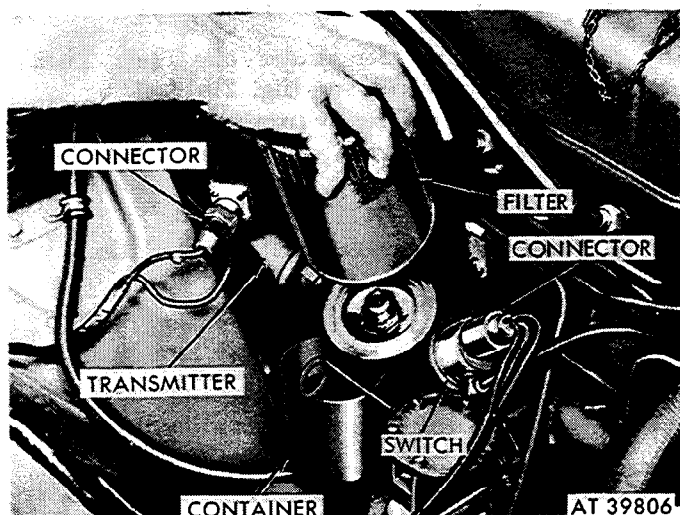
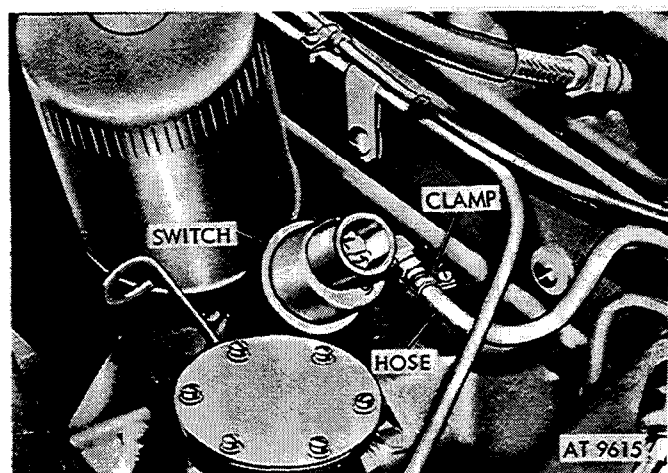
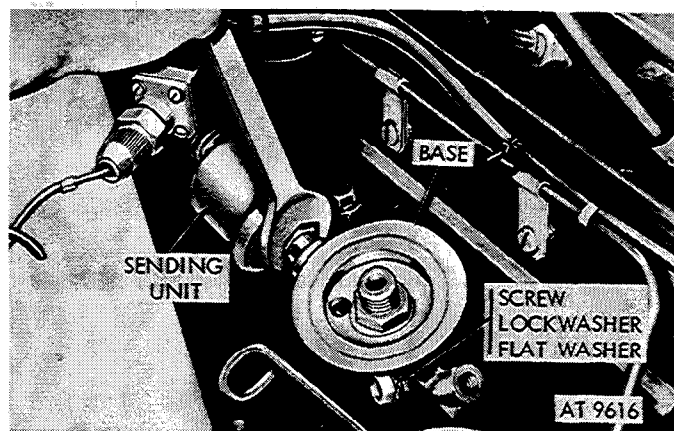

Figure 2-67. Remove oil filter and disconnect connector.
Figure 2-68. Remove fuel pump safety switch (M151, M151A1, M151A1C and M718).
Figure 2-69. Remove sending unit and mounting base.
(1) Place container under oil filter. Turn counterclockwise to remove (fig. 2-67).
(2) Install new filter by turning clockwise and tighten securely. Operate engine and check for leaks.
a. *Removal.* Refer to figure 2-68 and instruction below to remove oil filter mounting base.
(1) Remove oil filter (para. 2-34).
(2) Grasp electrical connector at fuel pump safety switch (oil pressure safety switch) and pull, separating male and female connectors (fig. 2-67).
(3) Loosen clamp screw and pull vent hose off fuel pump safety switch (oil pressure safety switch) (fig. 2-68).
(4) Unscrew fuel pump safety switch (oil pressure safety switch) (fig. 2-68).
(5) Pull oil pressure sending unit electrical connector, separating male and female connectors.
(6) Unscrew oil pressure sending unit from oil filter mounting base (fig. 2-69).
(7) Remove two screw and lockwasher assemblies and flat washers (see fig. 2-69).
(8) Remove oil filter mounting base (fig. 2-69). Remove and discard gasket. Clean mounting base thoroughly. Blow out all oil passages with compressed air.
(1) Unscrew and remove oil filter (para. 2-34).
(2) Disconnect oil pressure sending unit connector.
(3) Unscrew and remove oil pressure sending unit from oil filter base (fig. 2-69).
(4) Remove two screws, lockwashers and flat washers securing base (fig. 2-69). Remove base and gasket. Discard gasket.
(5) Thoroughly clean mounting base making sure all oil passages are open by blowing out with compressed air.
*b. Removal.* Complete operations (1) through (4) (para. 2-35) and refer to fig. 2-67 and fig. 2-68.
*c. Installation.* Operations (4) back through (1), fig. 2-68 and fig. 2-67, show operations for installing fuel pump safety switch (oil pressure safety switch).